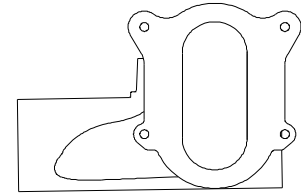

Fig. 1
1. Lay carrier fitting on floor, waste line barrel down. See Fig. 1